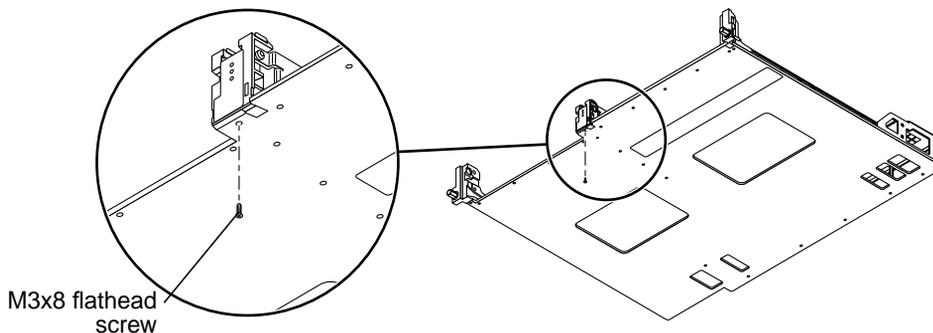

FIGURE 2 Securing the Center Guide Bracket After the T Rail Guide Removal
**4. Install one (1) M3x8 flathead screw from the FRU package to secure the center guide bracket to the new carrier plate. See Figure 2. Discard the remaining eight screws.**